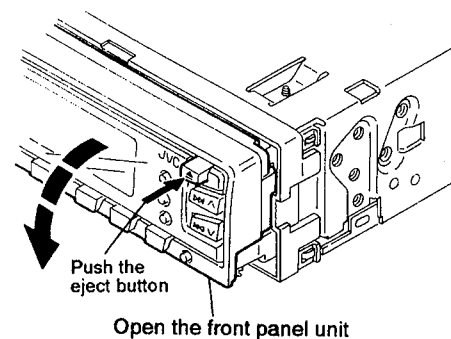

Fig. 2-1
■ Front panel unit (See Fig.2-1,2-2)